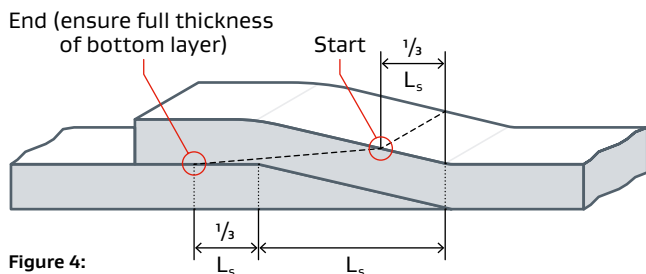

Figure 4:
- The start point of the second skive cut is located at the top of the gasket material, at a distance of $1/3 (L_s)$ from the pointed end of the bottom skive cut (see Figure 4). This will make the tallest section of the skive $1/3$ thicker than the base-layer gasket, indicated by (h) in Figure 5.
Perform the closing skive cut on a flat surface. Complete the gasket by removing the rest of the adhesive backing, laying the gasket in the groove, and overlapping the skived cuts so they resemble Figures 4 & 5.